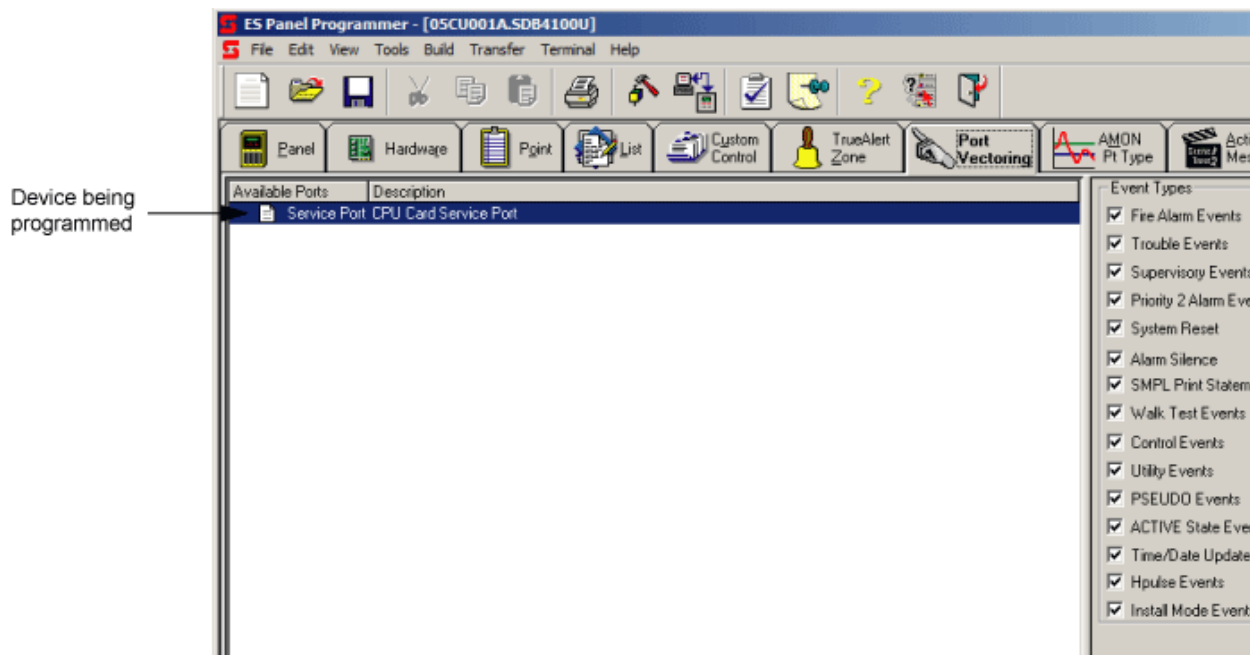

Figure 12-1. Port Vectoring Window
**Choosing Event Groups to Route** Click on the **Port Vectoring** tab, located just beneath the row of icons, to view the window used to route events to the service modem, RS-232 port, or DACTs. A window similar to the one shown in Figure 12-1 below appears.